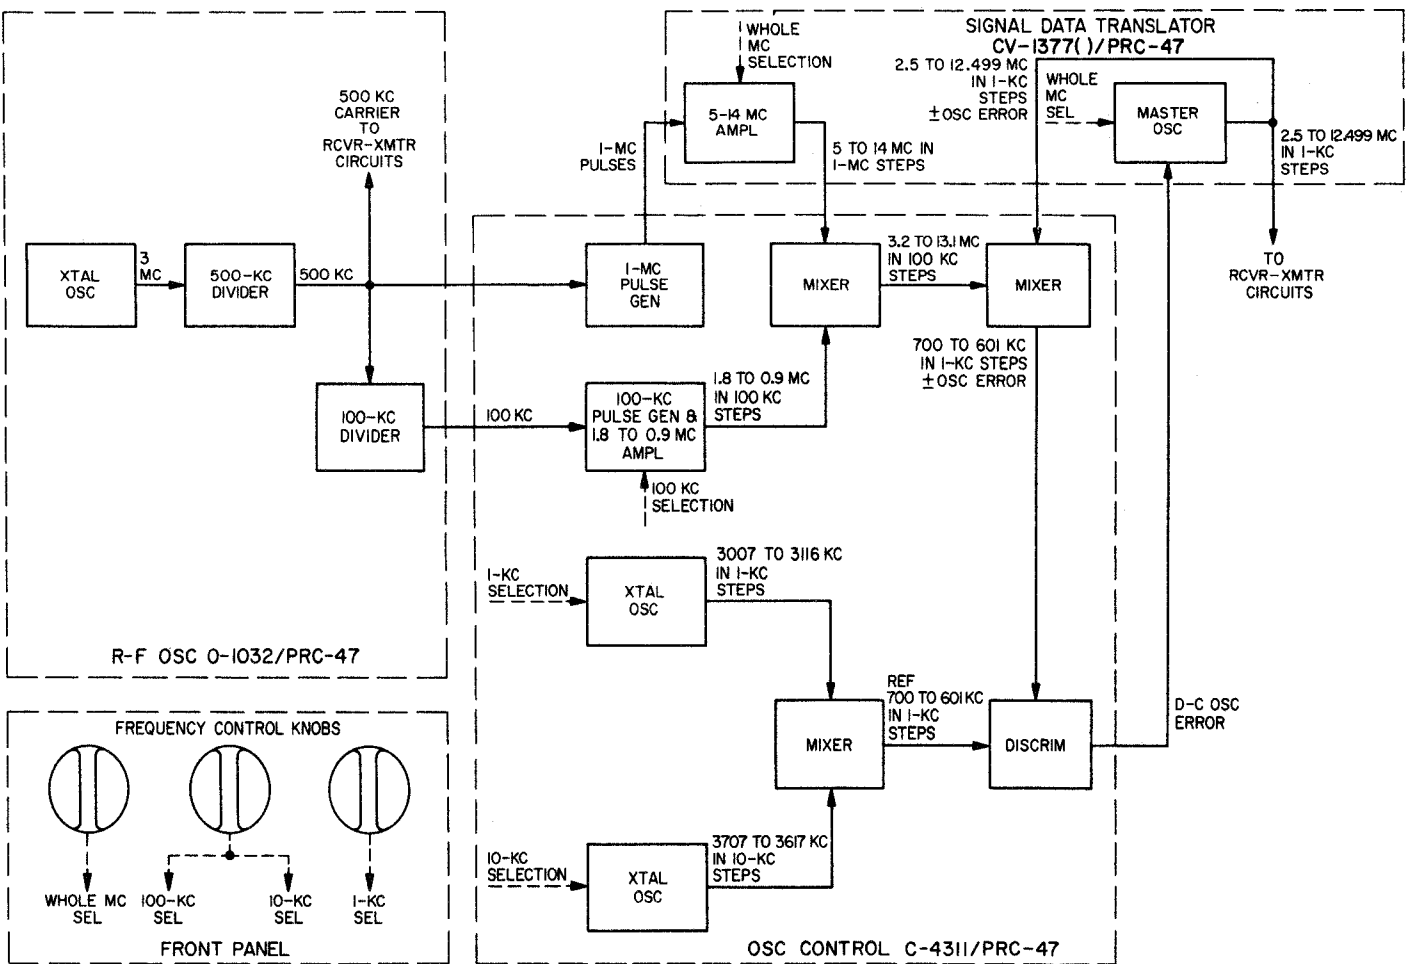

Figure 4-11. Frequency Control Circuits, Functional Block Diagram
a. GENERAL DESCRIPTION. (See figure 4-11.)
(1) MASTER OSCILLATOR. - The basic local oscillator frequency for both receiver and transmitter operation is 2.5 to 12.499 mc in 1-kc steps. This frequency is generated by a master oscillator in Signal Data Translator CV-1377/PRC-47. The master oscillator is coarse-tuned in ten 1-mc steps by the whole megacycle frequency control on the front panel (refer to table 4-1). Fine tuning of the